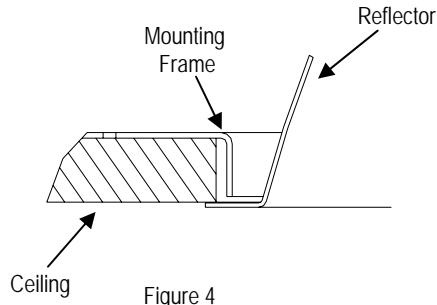

Figure 4
3. Once mounting frame has been secured in structure, adjust the mounting frame vertically to align the bottom edge to either flush or slightly above (1/8" max) the ceiling line as shown in Figure 4. Secure mounting frame into position by closing the clamping latch arm.
If non-flexible wiring method is used, follow procedure for flexible wiring method. Then lower mounting frame equal to the thickness of the finished ceiling or slightly above as shown in Figure 4.